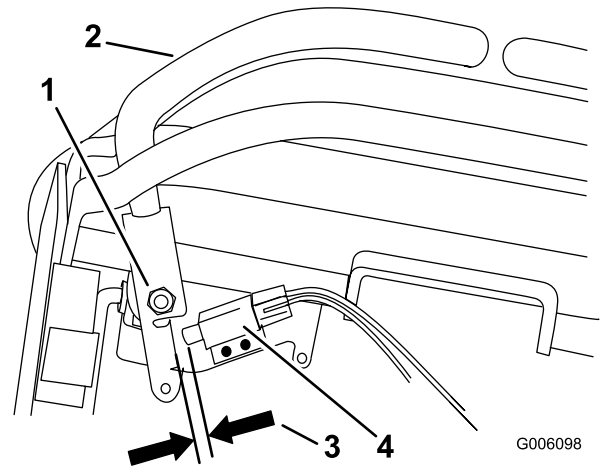

Figure 56
10. Check the gap between the control lever and switch as shown in Figure 56. The gap needs to be between a 1/16 inch to 3/32 inch (1.6 mm to 2.4 mm).